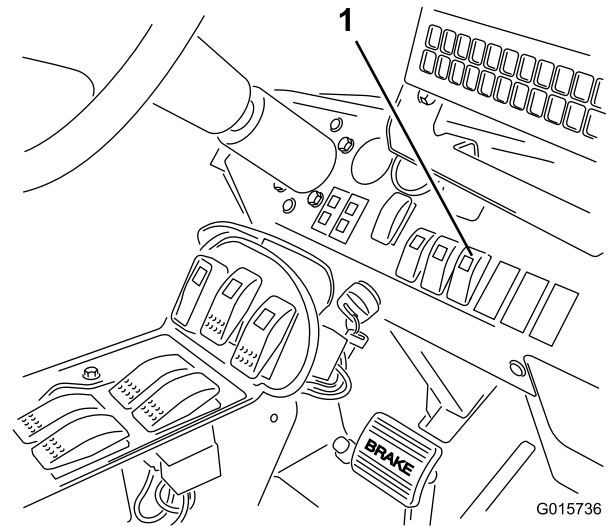

Figure 20
4. Press the sonic boom switch on the dashboard to the Auto position (Figure 20).